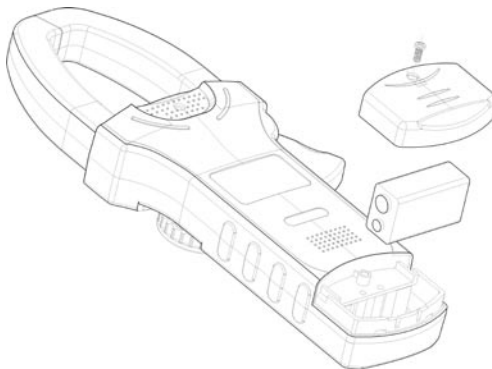

figure 11
B. Replacing the Battery (see figure 11)